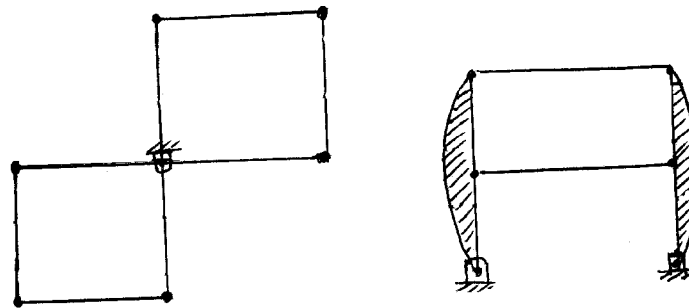

Fig. 2
- (e) What do you understand by Degree of freedom ? Determine the degree of freedom of the linkages shown in **fig.2**.